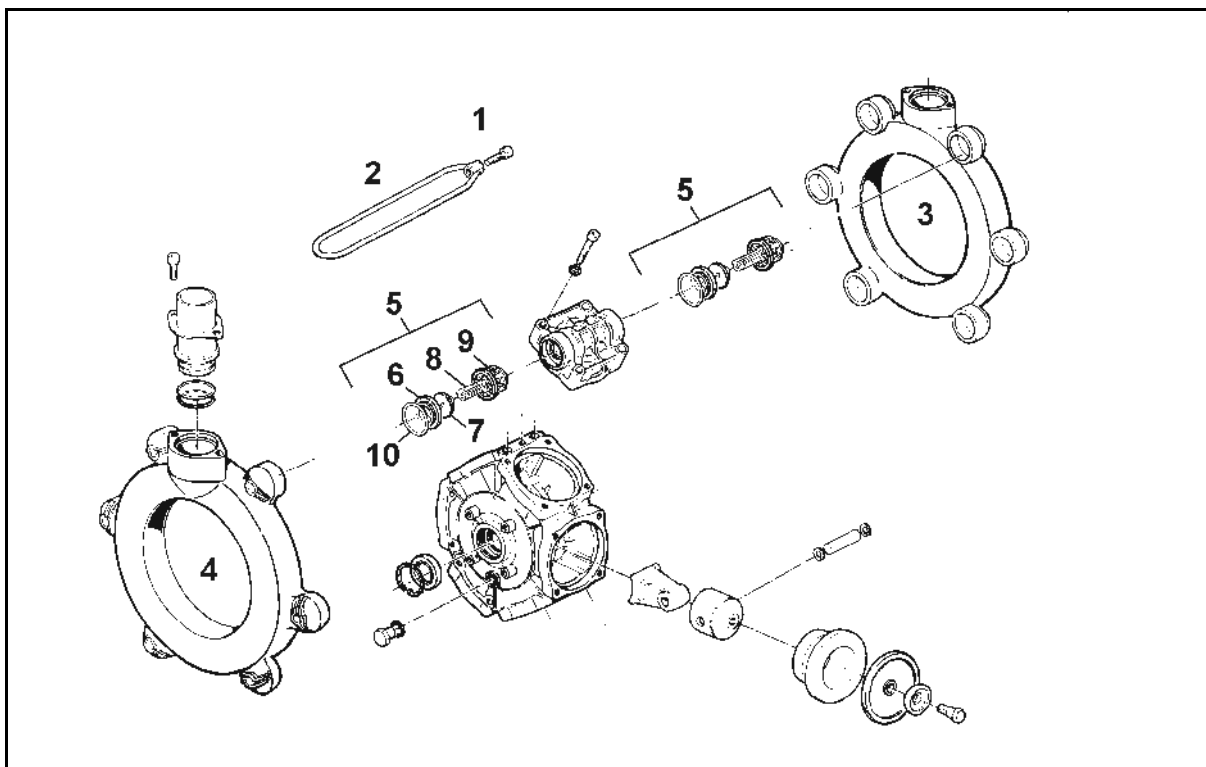

Fig. 149
- Pay attention to the respective installation positions of the valves on the suction and pressure sides before removing the valve groups (Fig. 149/5).
- When reassembling, ensure that the valve guide (Fig. 149/9) is not damaged. Damage may cause the valves to jam.
- Always tighten the nuts (Fig. 149/1,2) in a crosswise fashion using the specified torque. Improper tightening of the screws causes warping, which results in leaks.
2. Release the screws (Fig. 149/1) and remove the tensioning clamp (Fig. 149/2).
3. Remove the suction and pressure ports (Fig. 149/3 and Fig. 149/4).
4. Remove the valve groups (Fig. 149/5).
5. Check the valve seat (Fig. 149/6), valve (Fig. 149/7), valve spring (Fig. 149/8) and valve guide (Fig. 149/9) for damage or wear.
6. Remove the O-ring (Fig. 149/10).
8. After testing and cleaning, fit the valve groups (Fig. 149/5).
9. Fit new O-rings (Fig. 149/10).
10. Mount the suction (Fig. 149/3) and pressure ports (Fig. 149/4) on the pump housing and fit the tensioning clamp (Fig. 149/2).
11. Tighten the screws (Fig. 149/1) crosswise to **11 Nm** torque